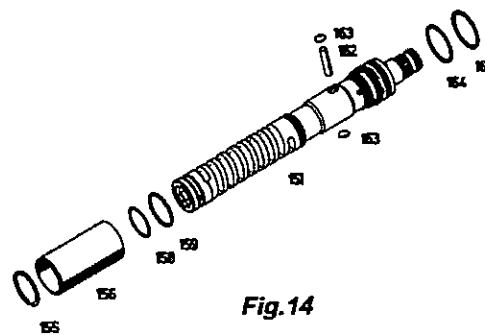

Fig.14
### 8.1 Unspring snap ring (155) and pull off sliding tube (156) (Fig.14).